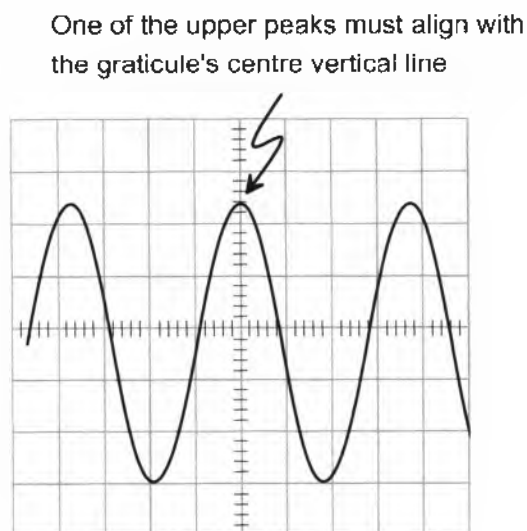

Figure 3
3. Adjust the *Horizontal Position* control to align one of the upper peaks with the graticule's centre vertical line (see Figure 3).